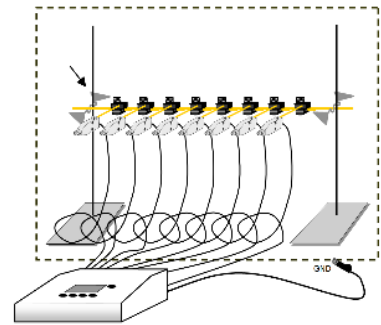

Figure 5
3. Screw the two rods together to make one 80cm rod for all 8 probes and fix the rod, for example (Fig. 5), between two ordinary (chemical) stands with standard clamps (not provided by EPG systems). Leave all probes connected to the Giga-8d device.
Environmental noise comes from the local electricity grid and depends on the location of and distance to 110 or 220 Volt (AC) power lines and cables to the probe input (Fig. 5). This noise is likely to be reduced it by moving any power cords from the Faraday cage vicinity (the open front, especially) and proper cage shielding and grounding.